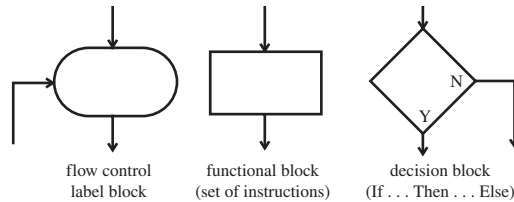

Figure 7.21 Software flowchart building blocks.
8. *Draw a program flowchart.* A **flowchart** is a graphical representation of the required functionality of your software. Figure 7.21 illustrates a set of building blocks that can be used to construct a flowchart. The flow control block is used as a destination label for a *goto* branch or a loop (e.g., *For . . . Next*, *Do . . . Loop* or *While . . . Wend*). The functional block represents one or more instructions that perform some task. The decision block is used to represent logic decisions. Design Example 7.2 illustrates how a typical flowchart is constructed.